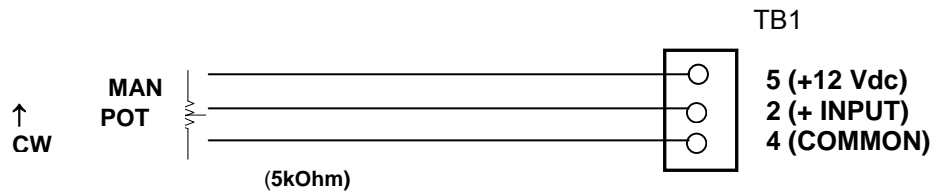

Figure 3-2. Remote Control with a Potentiometer
- a. With the power to the 1Z turned off, connect the potentiometer as shown in Figure 3-2. The CW position is the full power output position. Terminal TB1-5 is internally connected to a positive dc voltage source.